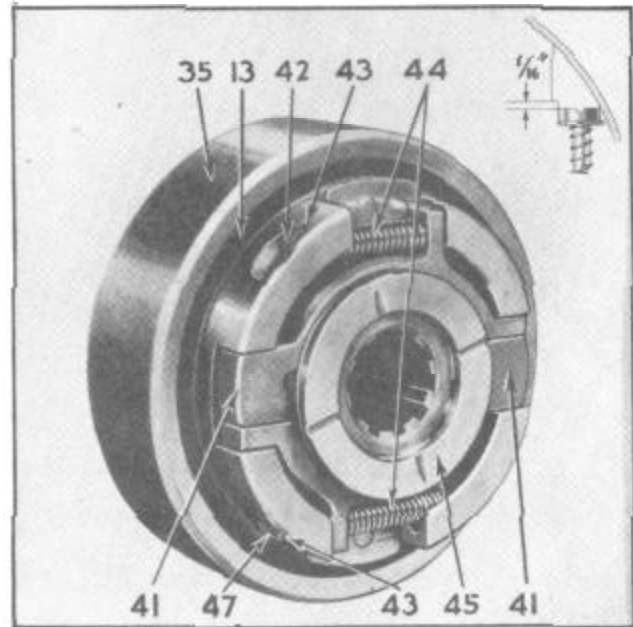

Figure 35--Reassembling Clutch Pawl and Core Assembly
1. Install clutch pawl adjusting screws (42 and 47), Figure 35, springs (44) and washers (43).